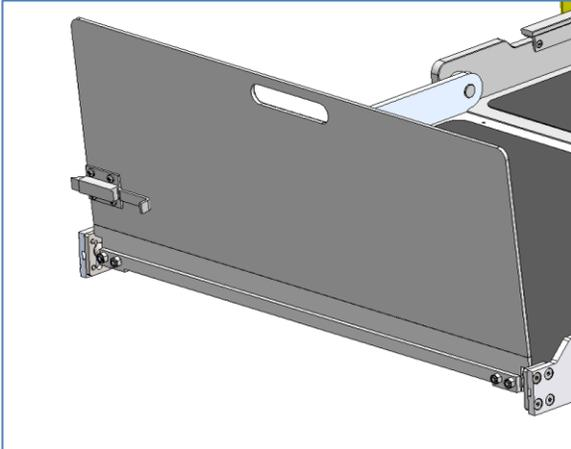
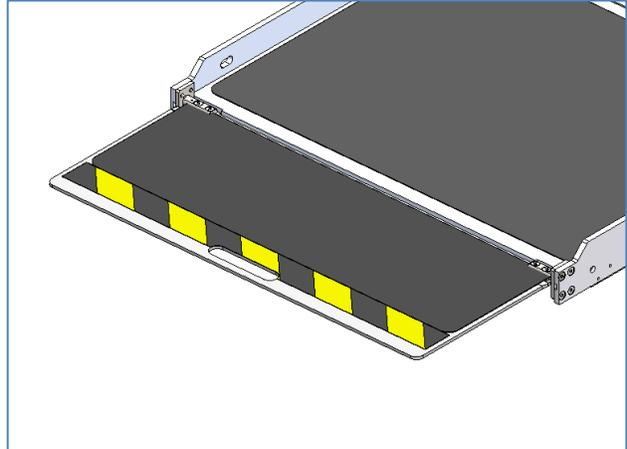
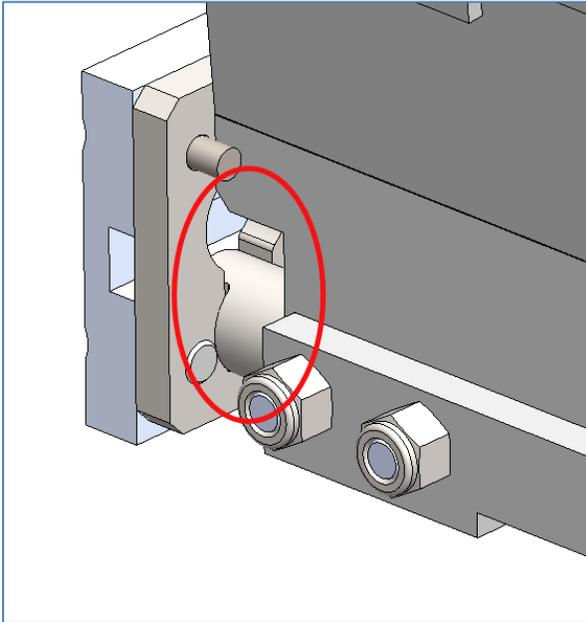

Figure 13
Figure 14
Figure 15
- 9) Deploy the outer barrier to ensure its proper functionality. Make sure there's no interference and the outer barrier properly locks itself in place at the upright position. See Figure 13, Figure 14, Figure 15.
- 13) Perform a quick functional test on the lift by deploying the outer barrier and have it locked in the upright position (See Figure 13, Figure 15). Press the UP push button then follow by releasing the UP push button and press the DOWN push button. The platform should move upward when the UP push button is pressed and should move downward when the DOWN push button is pressed.